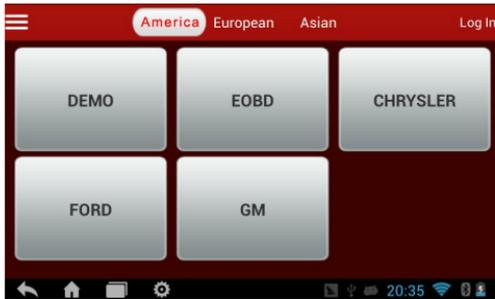

Fig. 5-3
1. Tap the CRP TOUCH/CRP TOUCH PRO icon on the HOME screen to enter the main function menu of diagnosis software, as indicated in Fig. 5-3.